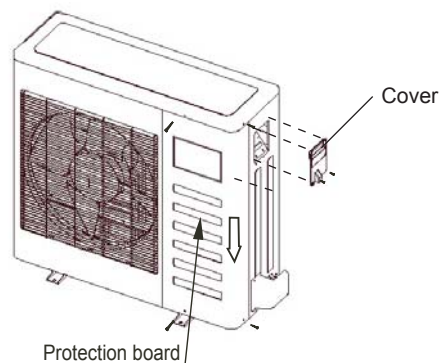

Fig.10-1
- Disassemble the bolts from the cover. (If there isn't a cover on the outdoor unit, disassemble the bolts from the maintenance board, and pull it in the direction of the arrow to remove the protection board.) (Refer to Fig.10-1)
(Refer to Fig.10-1~Fig.10-8)